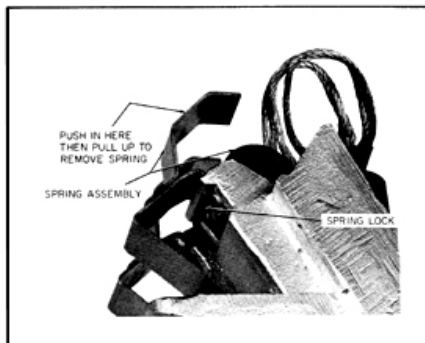

FIG. 5-2. DETAILS OF BRUSHHOLDER SPRING LOCK. E-16478
- a. Push the spring in at the location shown in Fig. 5-2.